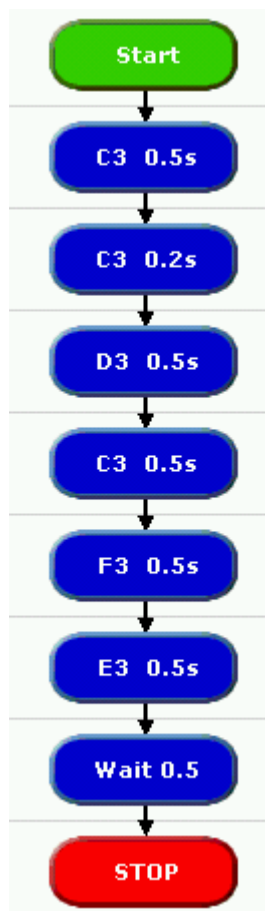

Fig 9. This program plays the first line of a well known tune.
2. Build the program shown in Fig 9. Take care to set the note, pin and time boxes of all the Sound commands.